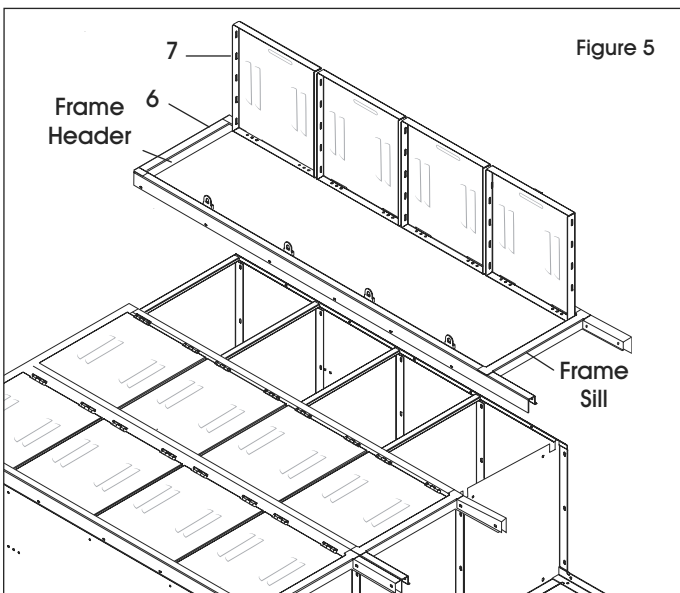

Figure 5
8. Place door and frame assemblies (6 and 7) over the locker body. Make certain that body sides are inside frames, not between the frames. Attach top to frame header and bottom to frame sill (one bolt each). (See Figure 5) If joining a 3-wide unit beside another unit skip to **JOINING UNITS TOGETHER**.